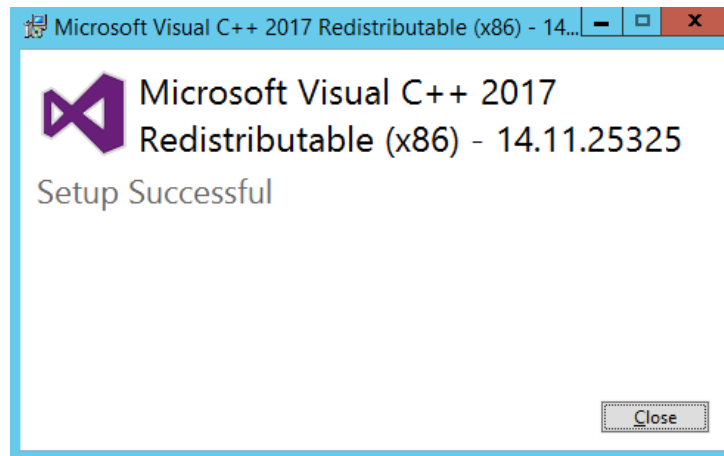

Figure 29
- When the Setup has completed, the following window is displayed. See Figure 29 below: